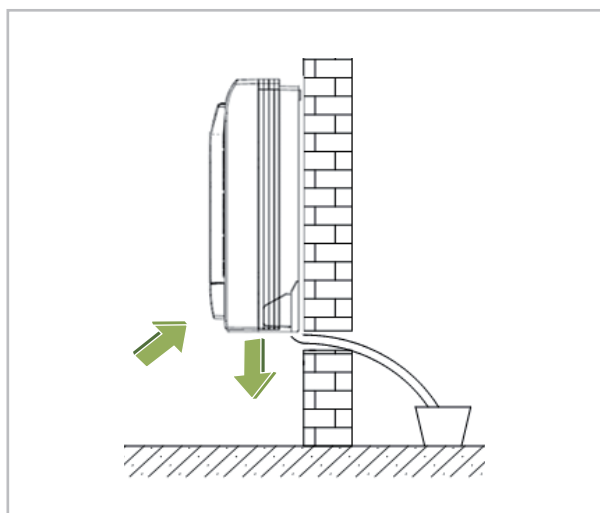

Fig. 13: Horizontal positioning
5. ➤ Check again that the unit is level. Fig. 13